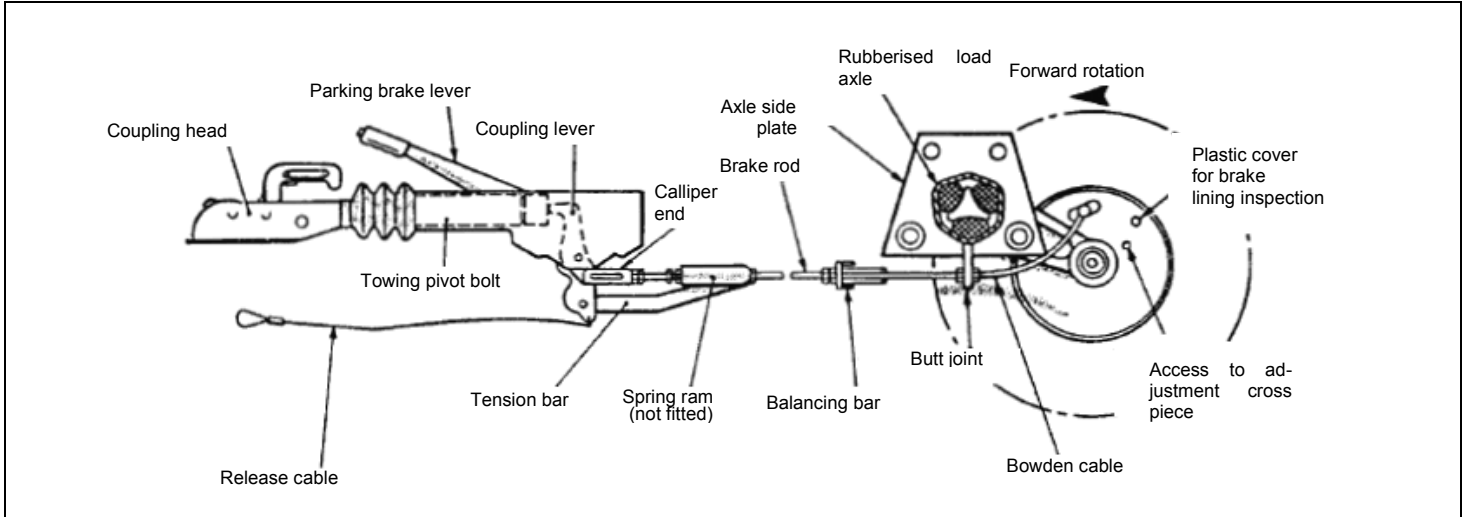
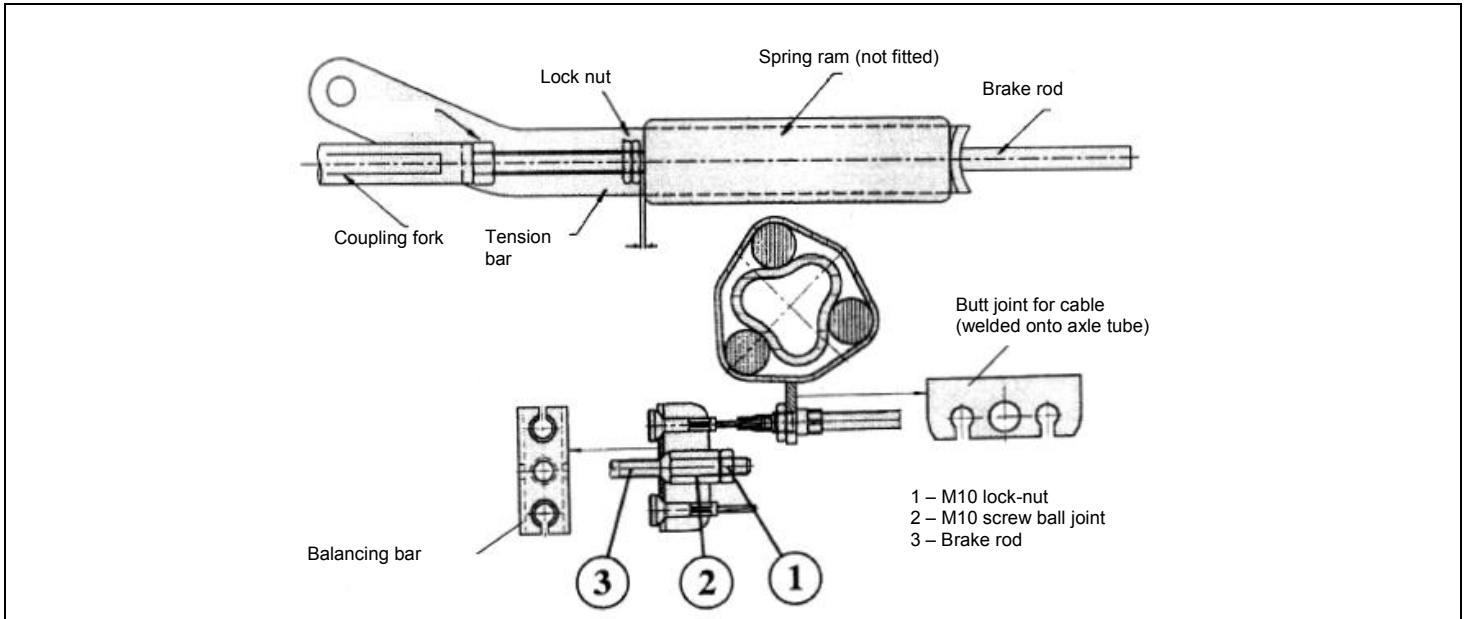

Figure 9.4 – Braking system diagram
Figure 9.5 – Diagram of braking system / close-up
4. Remove the interior plastic cone fitted on the support plate, so as to clear access to the cross piece adjuster. (figures 9.4 and 9.6).
7. Check the adjustment at the end of the brake cable, where it attaches to the butt joint (abutment) welded in the centre of the axle. If the interior cable is released, it must have a protruding length of between 5 and 8 mm (figure 9.5).
9. Ensure that the balancing bar (compensator) is equally distributed (figures 9.4 and 9.5). Excessive movement of this bar indicates a possible adjustment fault (if necessary, repeat operation 7).
- Note:** over-adjustment of the screw ball joint (fig. 9.5 – ref. 2) may shift the brake cable, which could reduce the play in the brake rings. If the coupling lever cannot come into contact, it may be due to incorrect setting of the two lock nuts on the front of the spring ram. Loosen the lock-nuts and then adjust the brake rod as indicated above (figures 9.4 and 9.5).